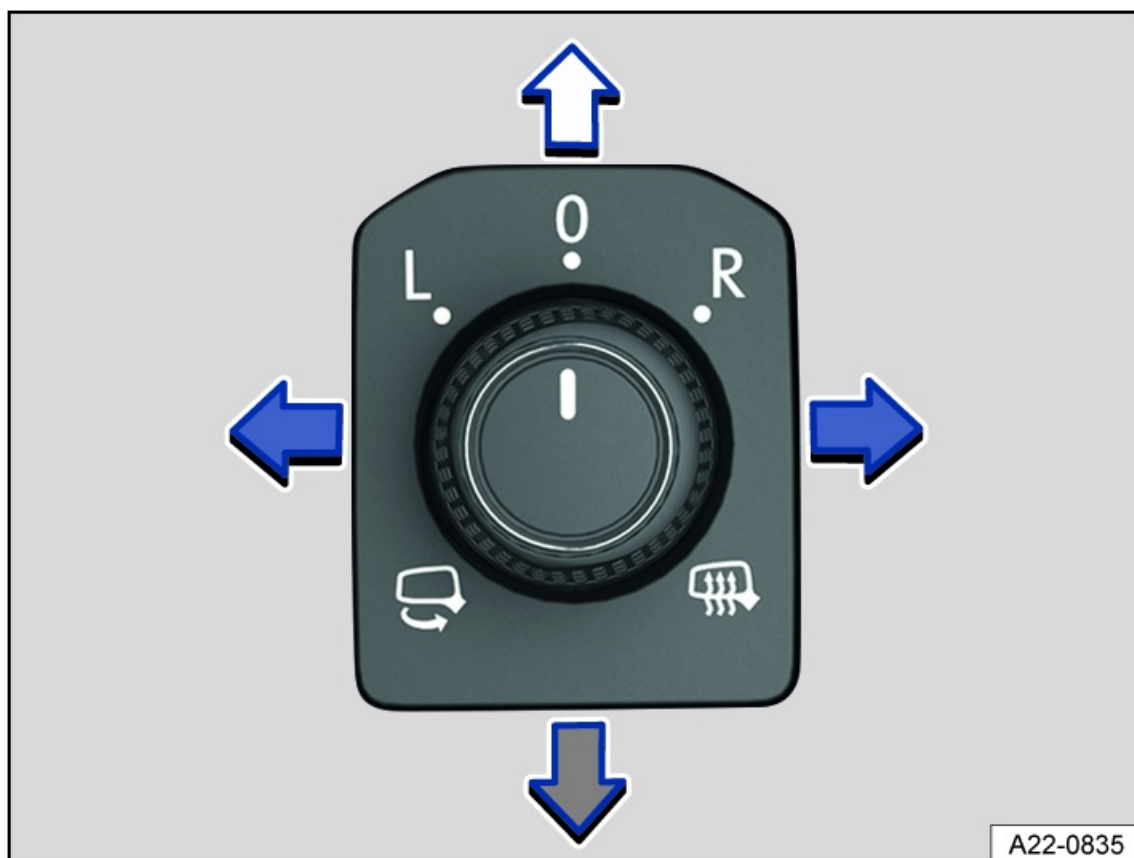

Fig. 109 In the driver door: knob for the outside mirrors.
2. Turn the knob in the driver door to the preferred symbol fig. 109.